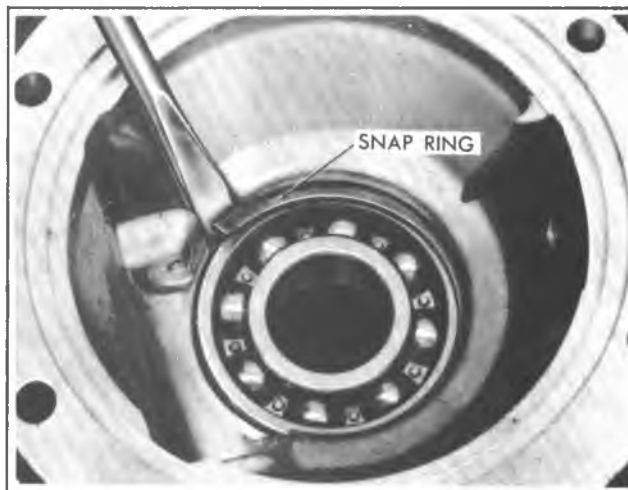

Fig. 7D-17S—Removing Rear Output Bearing Retaining Ring
3. Position rear seal to bore and drive into place using tool J-22388 (Fig. 7D-19S) or other suitable tool until approximately 1/8" to 3/16" below housing face.